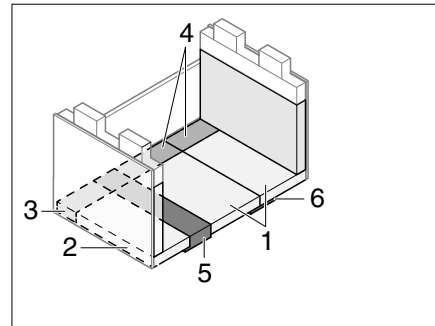

Fig. 209 After conversion
- Lay on the seat, backrest and additional cushions as shown in Fig. 209.
- ▷ In order to achieve higher resting comfort, the cushion insert can be removed from the back cushion (Fig. 209,2).